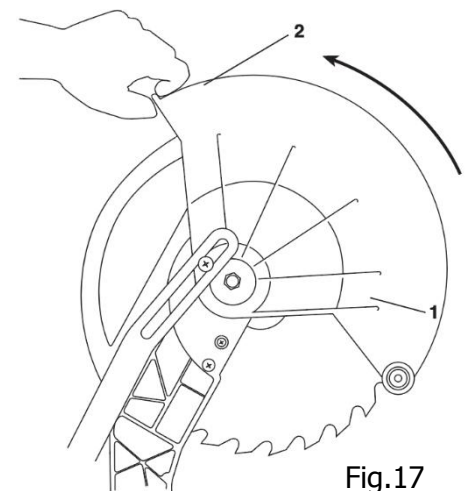

Fig.17
- 2.Workpiece must be securely clamped.This frees your left hand to raise the guard 1 by the lip 2 just enough to clear the workpiece (Figure 17)